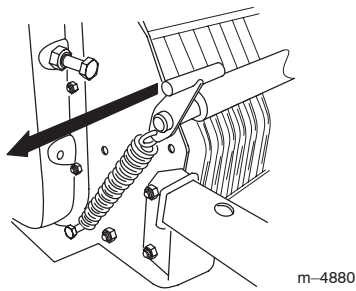

Figure 10
3. Lift up and release the spring catch on the side of the cultivator (Fig. 10).